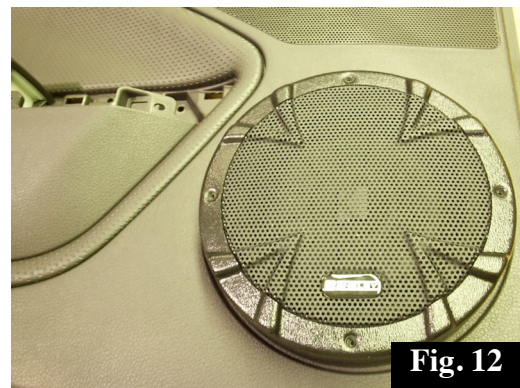

Fig. 12
16. Secure the new grill to the front of the woofer using 4 of the #6 X 1/2" screws. The grills are labeled Left and Right. Tighten by hand. Do not over tighten. Fig. 12